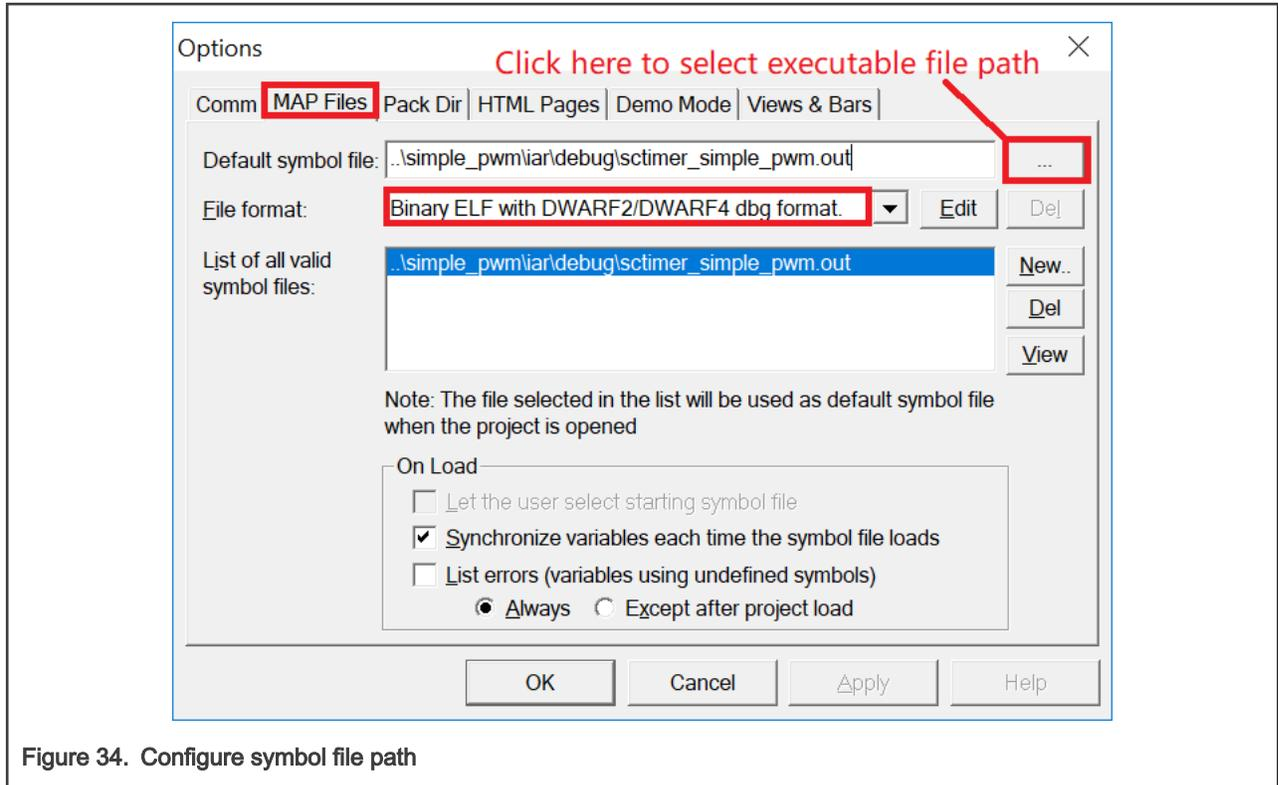

Figure 34. Configure symbol file path
7. Click **MAP Files** to configure symbol file path, as shown in Figure 34. The symbol file path is `boards\lpcpresso51u68\driver_examples\sctimer\simple_pwm\iar\debug\sctimer_simple_pwm.out`.